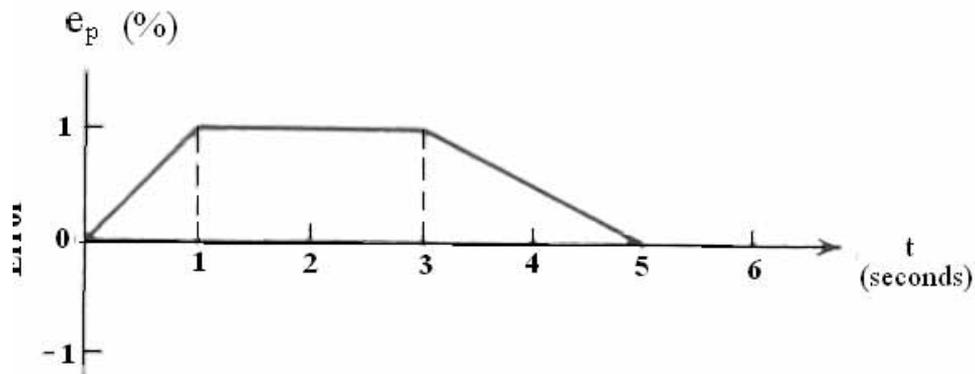

Figure Q 9 (b)
- Q. 9 A Define proportional plus Derivative (PD) controller along with mathematical equation. Explain the reason why derivative controller is added to proportional. 6
- B Figure Q 9 (b) shows an error time graph. Sketch the PD controller output w.r.t time $K_p = 5\%/%$, $K_D = 0.5 \%/s$ and $m(0) = 30\%$ 10